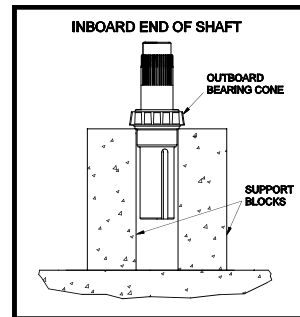

Figure 6.3.2.2—Removal of Outboard Bearing Cone (Option #1)
11. To remove the outboard bearing from the shaft, one of two procedures can be used. 1.) Support the shaft by the bearing cone with the inboard end of the shaft facing up. With an arbor press or hydraulic press, press down on the inboard end of the shaft; **reference Figure 6.3.2.2.** 2.) With a hammer and punch, carefully strike the bearing cone towards the inboard end of the shaft; **reference Figure 6.3.2.3, next column.**